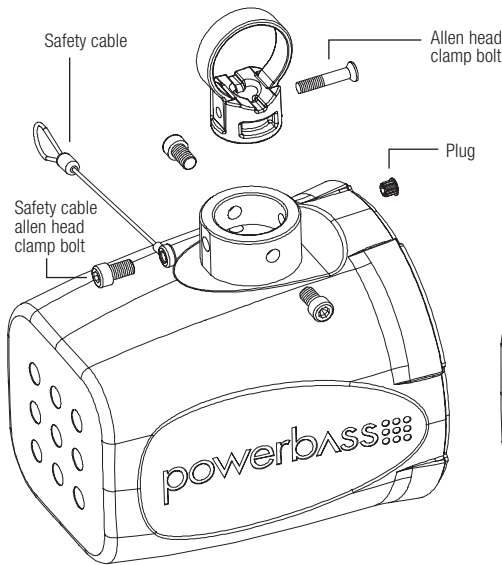
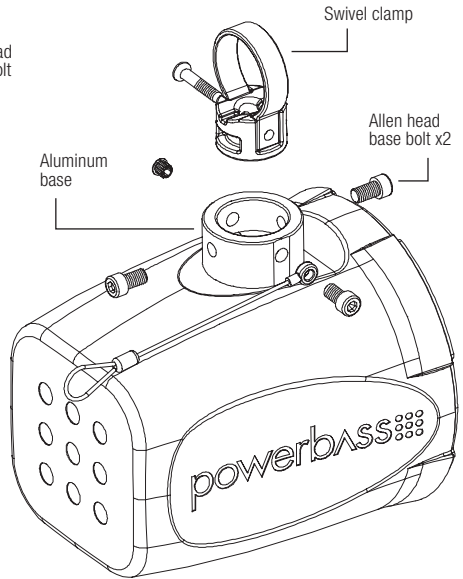
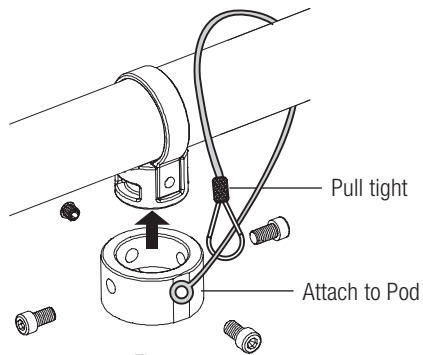

Fig.1
Fig.2
Fig.4
3. Remove the Allen Screws securing the Clamp to the Aluminum Base. (Fig. 1, Fig. 2)
6. Place the clamp over the bar and screw in the Allen Head bolt at first by hand. Next using the supplied Allen wrench tighten the bolt. When fully tightened the clamp should slide into the base mounted to the Pod. (Fig. 1)
7. Hold the Pod and place the Aluminum Base flush with the bar. Be sure to push any excess speaker wire back into the bar. Make sure the speaker hole from the Aluminum Base of the Pod is aligned with the hole in the bar—use caution not to pinch the wire. Tighten 2 allen head bolts to secure. (Fig. 1, Fig. 2)
10. Depending on the position of your clamp installation, use 2 allen head base bolts on opposing sides to secure the swivel clamp to the POD. Use a 3rd allen head bolt to secure the safety cable. (Fig 4) For the unused base hole use the supplied plug to prevent moisture and water to enter the clamp assembly. (Fig1, Fig2)